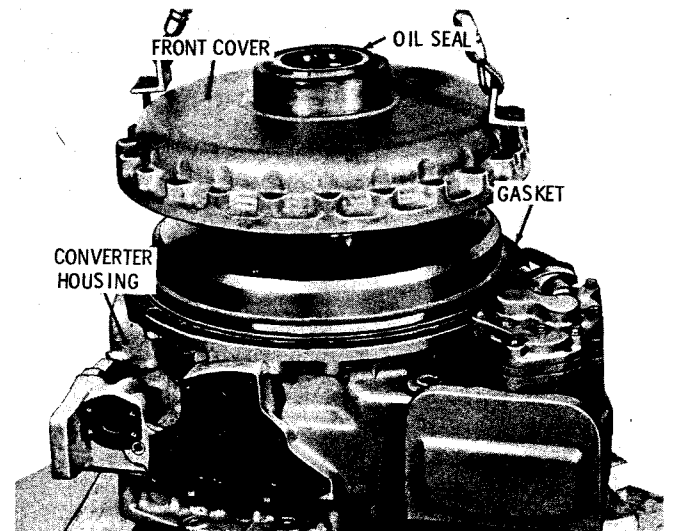

Fig. 5-13. Removing converter housing front cover (remote mount)
(4) Remove 21 bolts, nuts and lockwashers which retain converter housing front cover. Attach a 2-strand lifting sling to the cover and remove the cover from the converter housing (fig. 5-13). Remove the gasket. Do not remove the oil seal from the cover unless replacement is necessary. Refer to paragraph 6-11 for rebuild of the converter housing front cover.